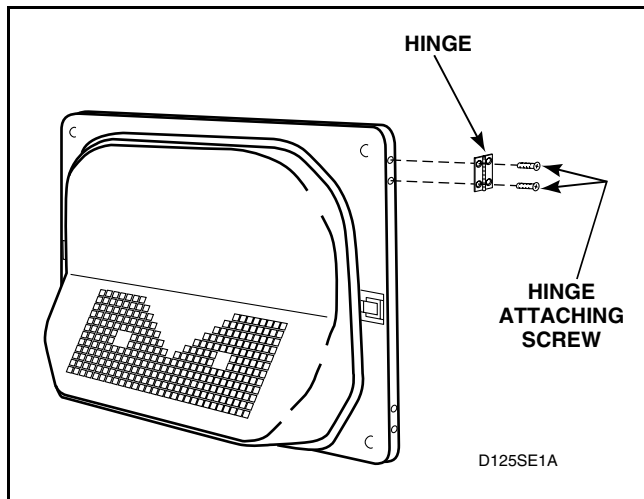

Figure 25
- a. Remove four screws holding hinge to loading door. Refer to *Figure 25*.
**NOTE:** Screw the hinges onto door with the hinge pin facing the front of the door. Refer to *Figure 25*.